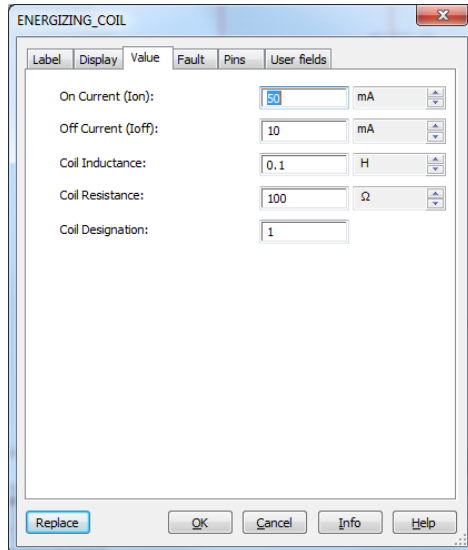

Figure 5: configure the relay coil model
- Place the component on your diagram and then right click on it. Set the coil parameters as you see in Figure 5 below.